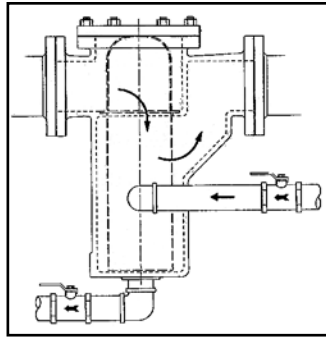

Fig. 10
***Washdown, Manual, Fixed or Rotary Spray, Back-Flushing Strainers (Figure 10)***